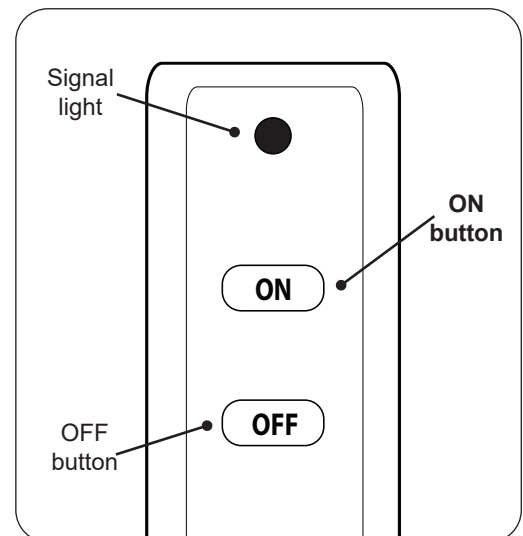

Fig. 37-2 Remote transmitter detail
2. Locate the remote transmitter and press the **ON** button (see Fig. 37-2). The ignition sequence will begin.